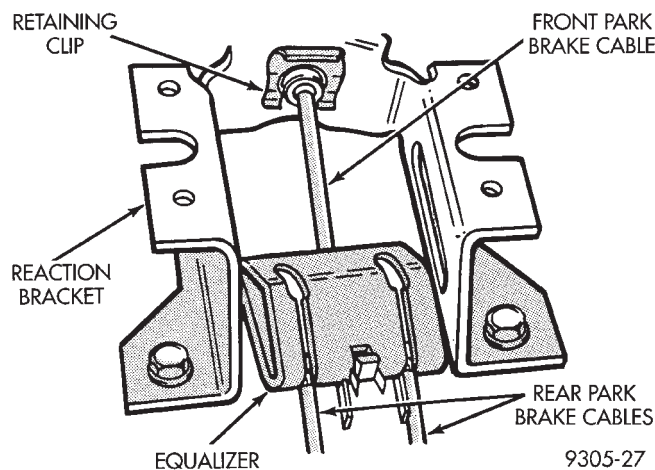

Fig. 98 Front Park Brake Cable Connection At Equalizer
(5) Reload the self adjuster mechanism of the park brake pedal. Use the procedure as described in Reloading Self Adjuster in Service Procedures Section in this group of the service manual.
(6) Remove front park brake cable from park brake cable equalizer (Fig. 98).
(6) Route front park brake cable along floor of vehicle. Install end of front park brake cable into reaction bracket. Install front park brake cable to reaction bracket retaining clip. Tap retaining clip with hammer until fully installed on cable. Install front park brake cable into equalizer (Fig. 98).